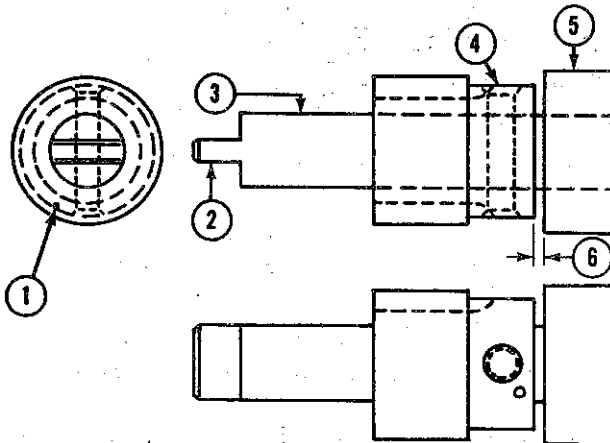

FIG. 74—LOCATING CAMSHAFT GEAR ON OIL PUMP SHAFT
c. Press the drive gear on the lower end of the drive shaft, using a new key. As indicated in Fig. 74 the gear should be pressed onto the shaft until there is .002" to .004" [0,0508 a 0,1016 mm.] clearance measured between the end of the camshaft gear and the pump body.